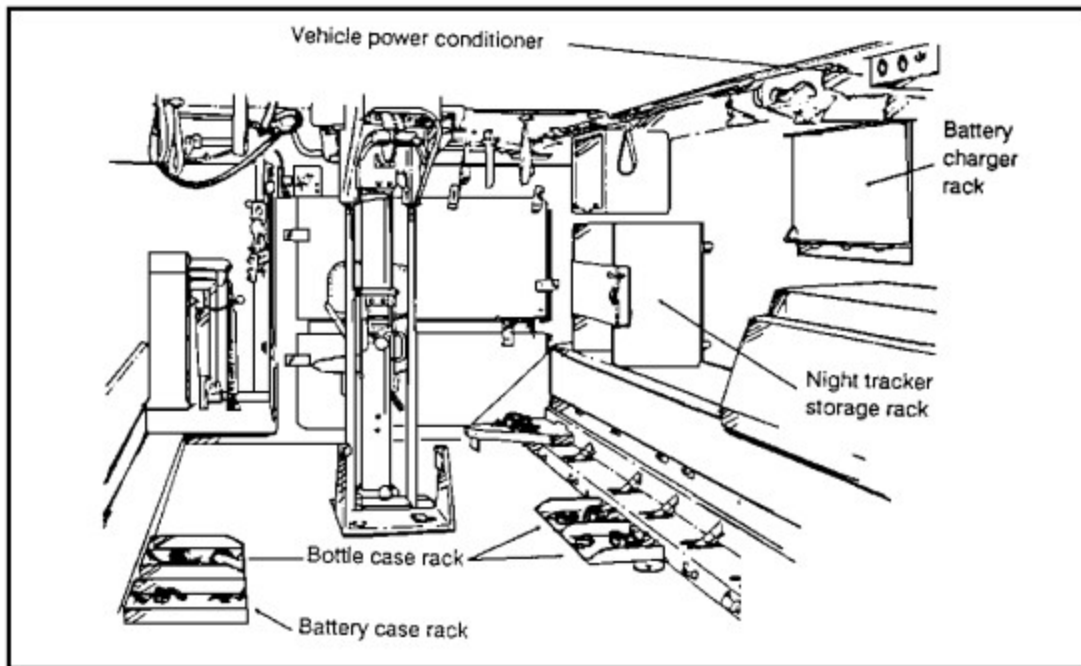

Figure 1-13. Vehicle Storage Kit.
(3) Vehicle Storage Kit. The vehicle storage kit (shown in Figure 1-13) is installed in all M113 APCs assigned to mechanized infantry squads. It consists of the following night tracker support equipment: